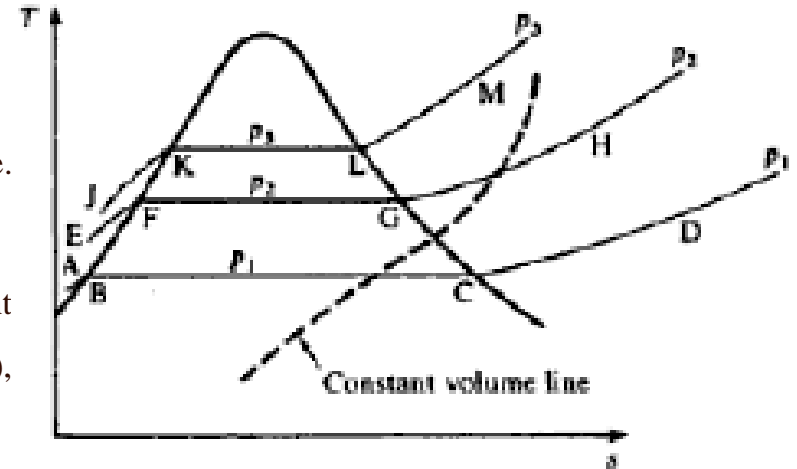

Fig. 4.7: T-s diagram for a vapour
- One constant volume line (shown as a broken line) is drawn in Fig. 4.7. Lines of constant volume are concave down in the wet region and slope up more steeply than pressure lines in the superheat region.